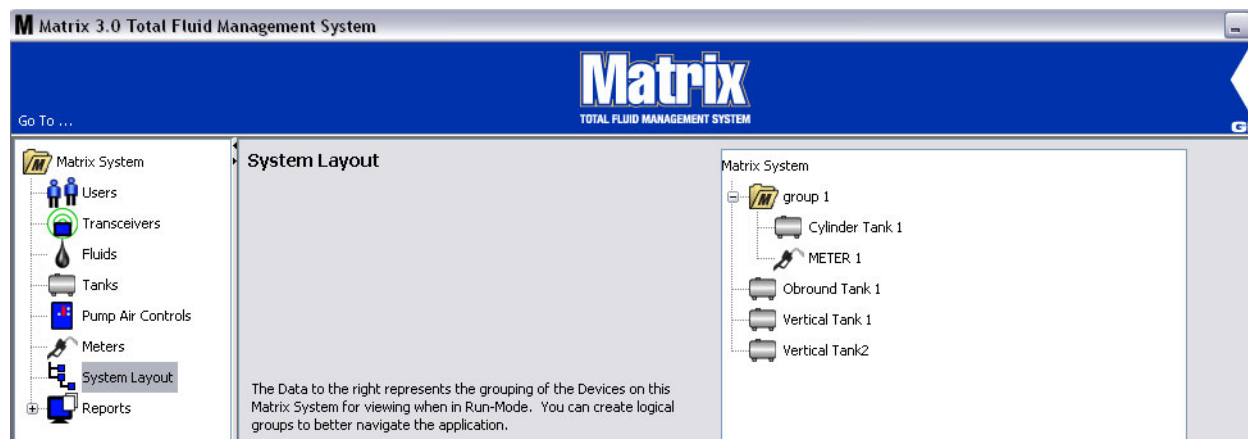

FIG. 98
11. When you are finished creating or modifying group folders, click OK to close the screen and save the changes. The Group(s) you created are displayed in the Matrix System column (FIG. 98).